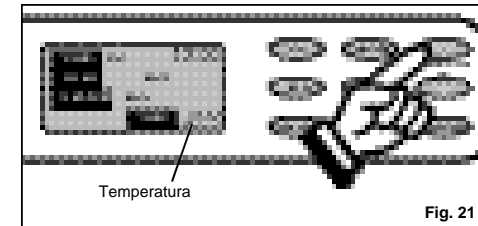

Fig. 21
2) Press the appropriate Δ or ∇ key to select a suitable temperature between 17°C (63°F) to 30°C (88°F). *Fig. 21*.